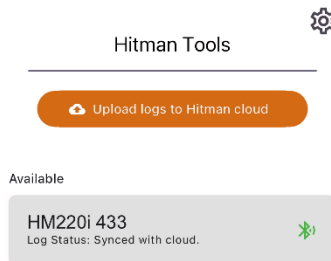

Figure 9: Upload all Log files
- A pop-up notification reading "logs uploaded successfully" will indicate whether this was successful and going back to the "Hitman Tools" page will display the upload status (Figure 9).